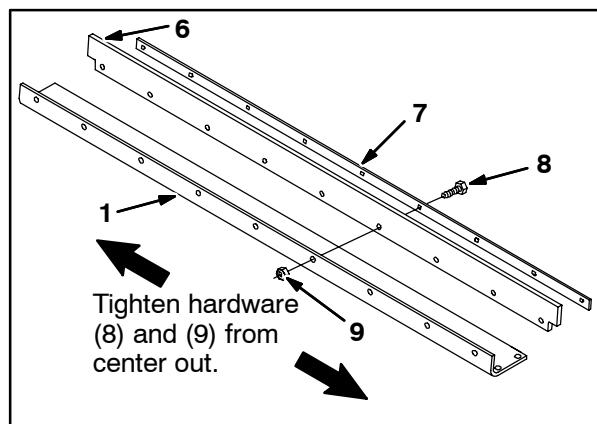

FIG. 2
8. Use nine hex screws (8) and nine hex nuts (9) to assemble a paddle retainer strip (7) and a conveyor paddle strip (6) onto each conveyor paddle angle (1). Hand tighten the hex screws and hex nuts. Refer to Fig. 2.
9. Tighten the hex screws (8) and the hex nuts (9) assembled in the previous step. Start from the center and work out towards the sides. Tighten the hex screws and hex nuts until they touch the conveyor paddle assembly and then tighten an additional 1/4 turn. Refer to Fig. 2.